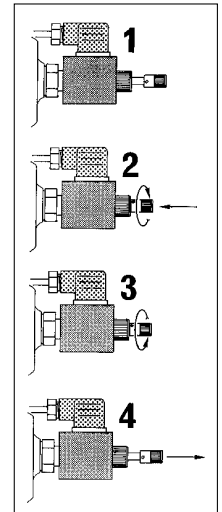

Abb. 9b
- remove the lead seal placed on the electrovalve G, push the button and then turn it clockwise (fig. 9b pos. 1-2); the button stays in the closed position.
- **Put the button of the electrovalve G back to its original position, by turning it anti-clockwise (fig. 9b pos. 3-4)**